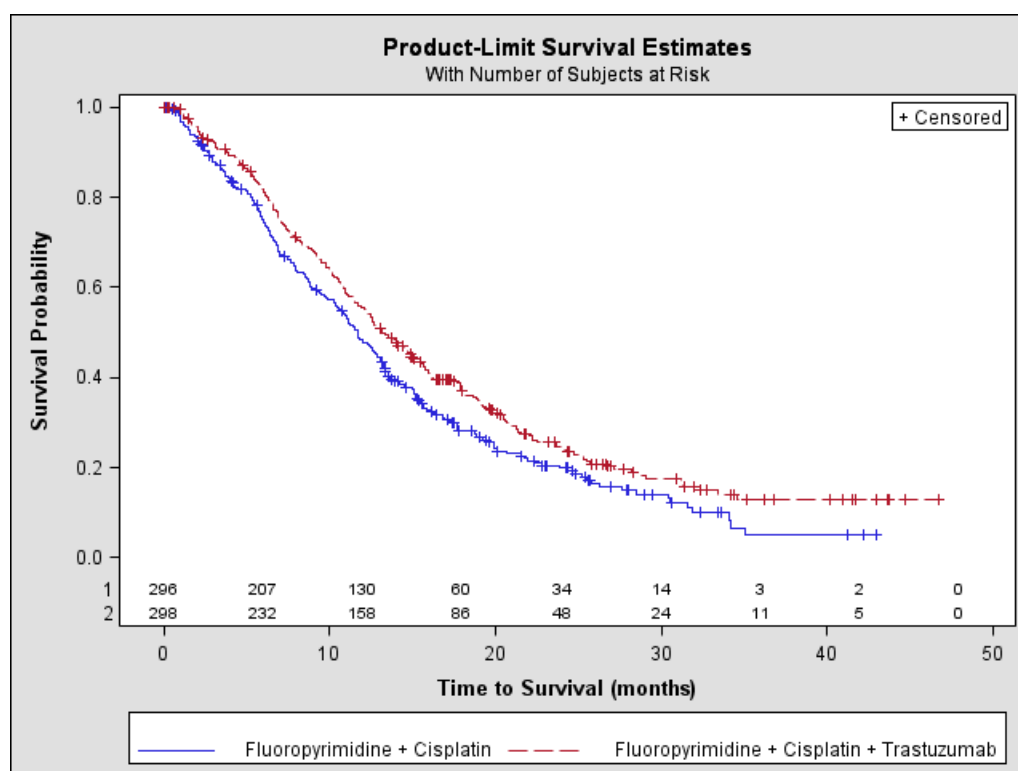

Figure 11. Updated Overall Survival in Patients with Metastatic Gastric Cancer
The main efficacy outcome measure was overall survival (OS) analyzed by stratified log rank test. The final OS analysis based on 351 deaths was statistically significant (nominal significance level of 0.0193). An updated OS analysis was also conducted at one year after the final analysis. The median overall survival of 13.5 months on the Herceptin™ plus chemotherapy arm was significantly longer compared to 11.0 month median overall survival on the chemotherapy alone arm. The efficacy results of both the final and the updated analyses are summarized in Table 16 and Figure 11.